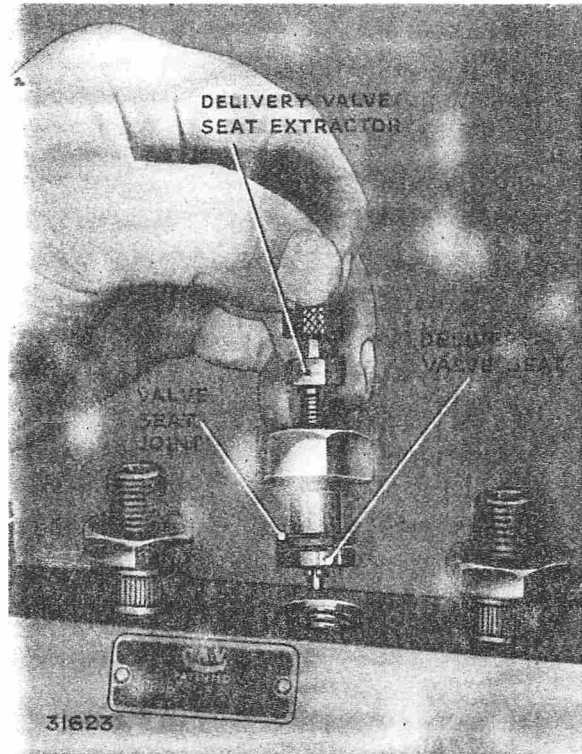

FIG. 32. REMOVING DELIVERY VALVE SEATING
9. Unscrew delivery valve holder, withdraw spring, spring peg, and delivery valve. The valve seating and its joint can now be removed by the extractor tool (Fig. 32).